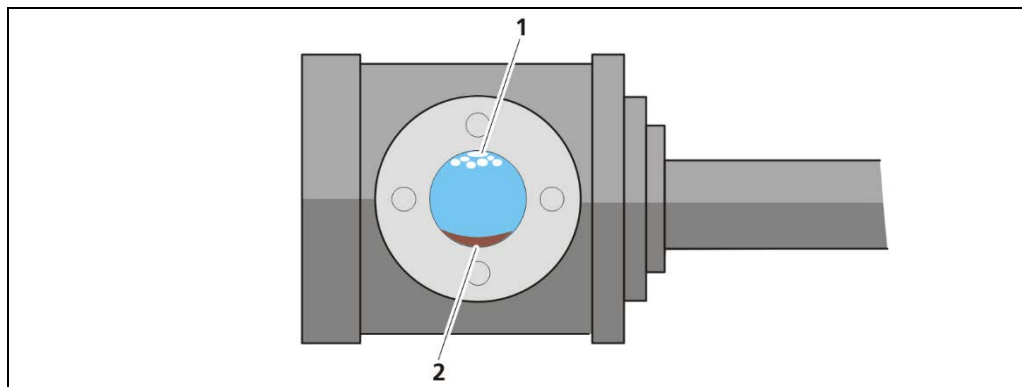

Fig. 5 Gas bubbles and debris in the product pipe
- Gas bubbles (Fig. 5, Pos. 1) in the product falsify the results. This risk can be avoided or at least reduced by:
- Measurements on horizontal pipelines should be performed using horizontal irradiation to reduce errors caused by deposit formation (Fig. 5, Pos. 2) and gas bubbles (Fig. 5, Pos. 1).